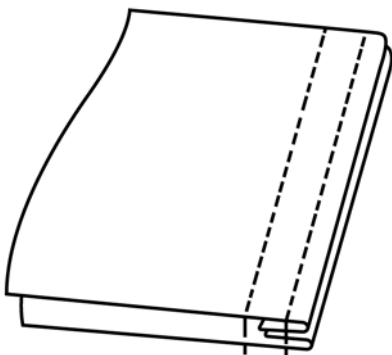

FIG. 11 Mock French Seam from Back Side of Fabric
**mock French seam**, *n*—*in home sewing*, a complex seam formed on the inside of the product with cut edges enclosed and no stitching visible on the face side; similar in appearance to the French seam but constructed differently. (Compare **French seam**.) (See Fig. 11.)